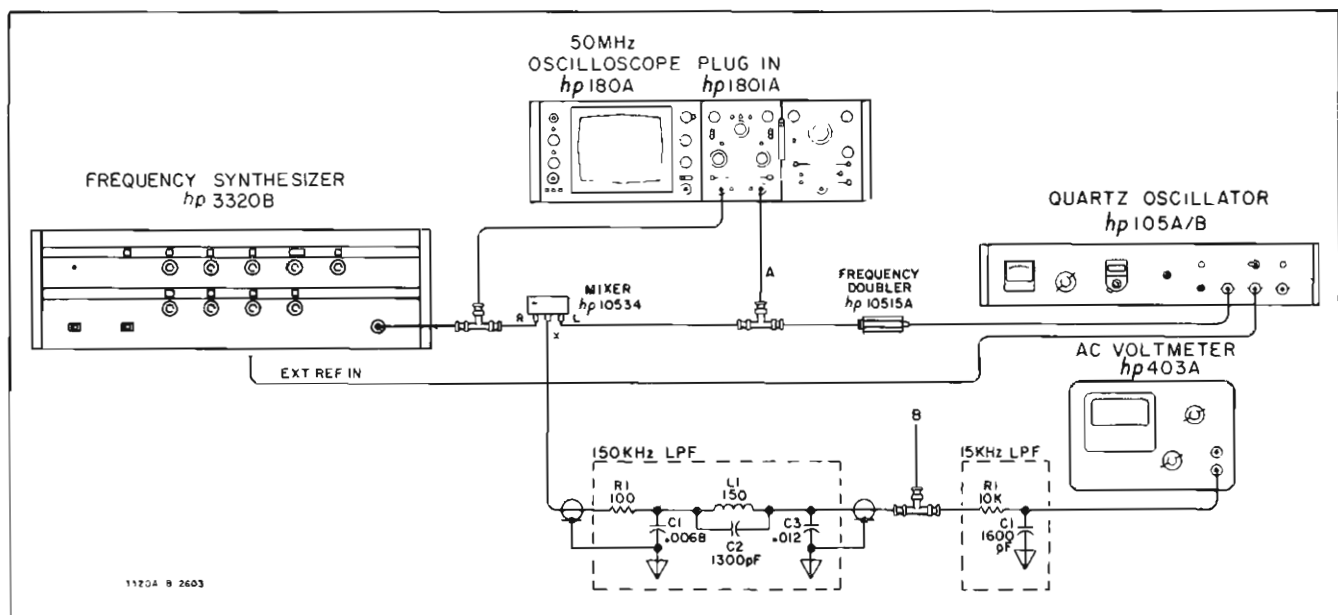

Figure 5-4. Signal to Phase Noise.
b. Connect the equipment as shown in Figure 5-4.
g. Disconnect Channel B of the oscilloscope from point A (Figure 5-4) and connect to point B.